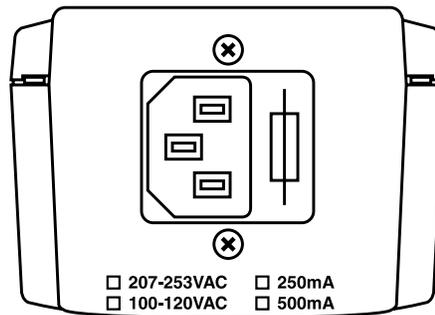

Figure 3-6. Indoor unit bottom panel.
- After connecting the outdoor unit to the indoor unit using the Indoor-to-Outdoor cable, connect the power cord to the unit's AC socket, located on the bottom panel (see Figure 3-6). Connect the other end of the power cord to the AC mains after verifying that the unit is rated for the voltage in the country of use; the AC rating is indicated on the bottom panel of the indoor unit.